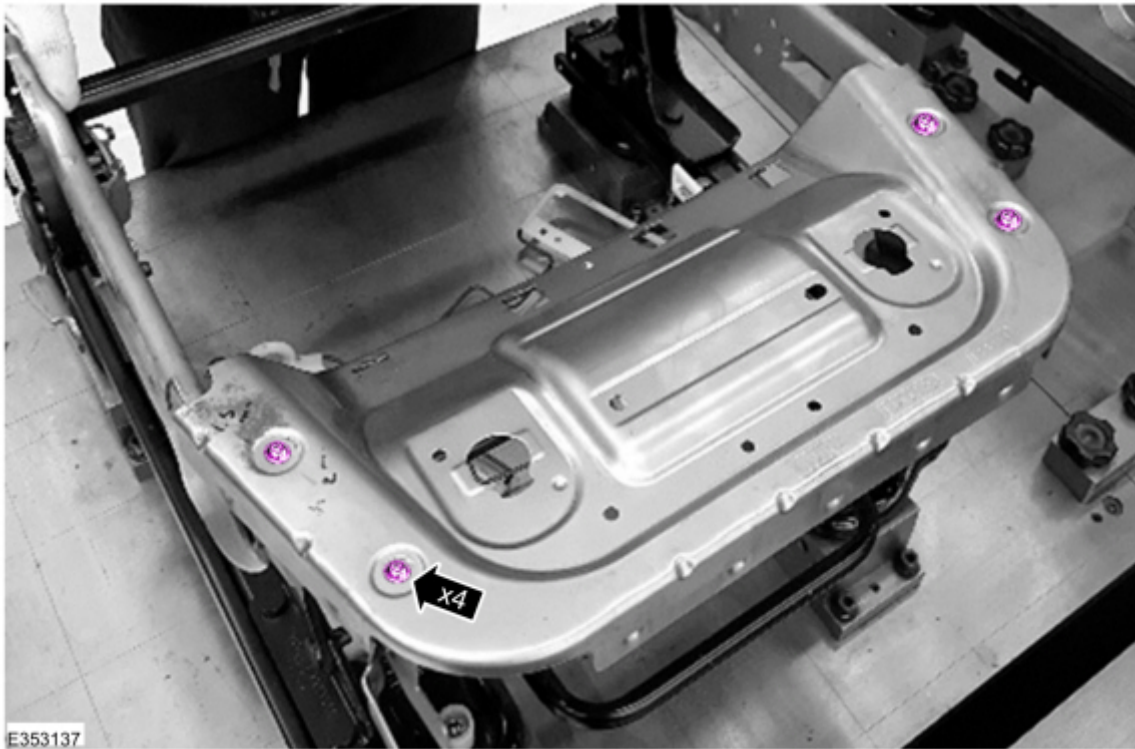

Figure 3
2. Remove the 4 T30 Torx screws from the front half pan. (Figure 3)